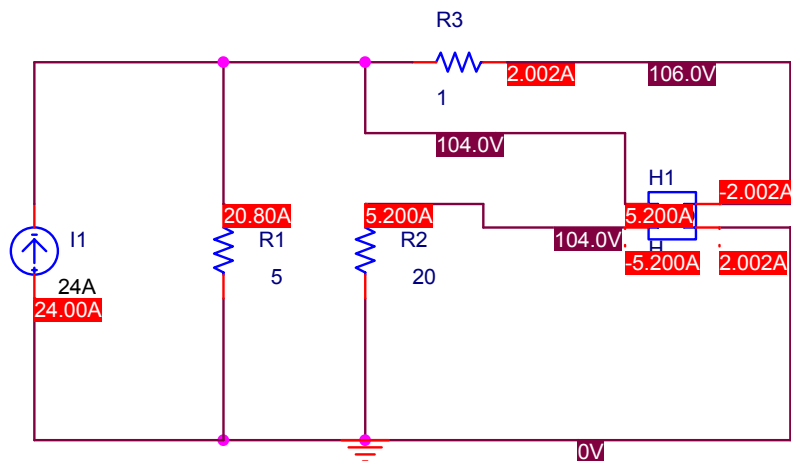

Figure 2.3 – Circuit 2 with voltages and currents shown after simulation.
5) Verify that the results for the voltages and currents as shown in Figure 2.3 are correct by checking them against hand calculations before proceeding with the tutorial.